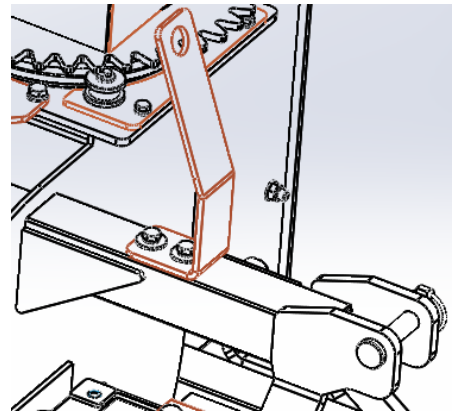

FIGURE 9: *Rear bracket installation location*
- b. Locate the Rear bracket on the position shown in the **Figure9**, and then fix it with M10x20 bolt, large plain washer 10 and spring washer 10